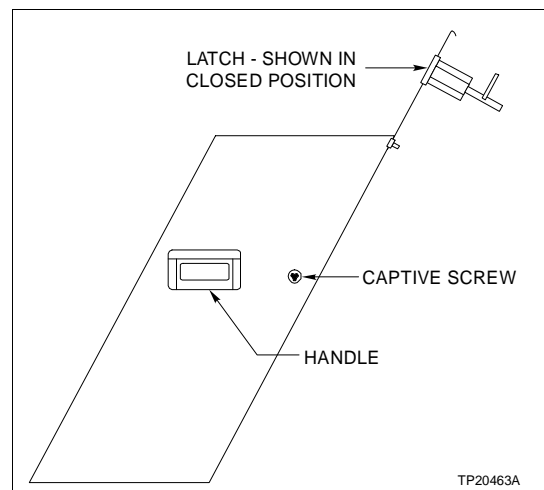

Figure PR2-1. Pedestal Cover Removal
- 1. Use the M8 Allen wrench to loosen the two captive screws on the sides of the pedestal cover (Fig. PR2-1).